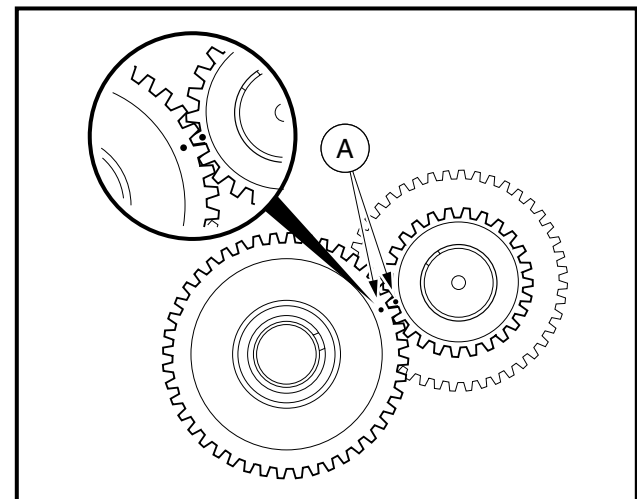

Figure 13-45 Timing Mark Alignment
1. Keep the timing marks (A) aligned during removal (**Figure 13-45, Page 13-24**).